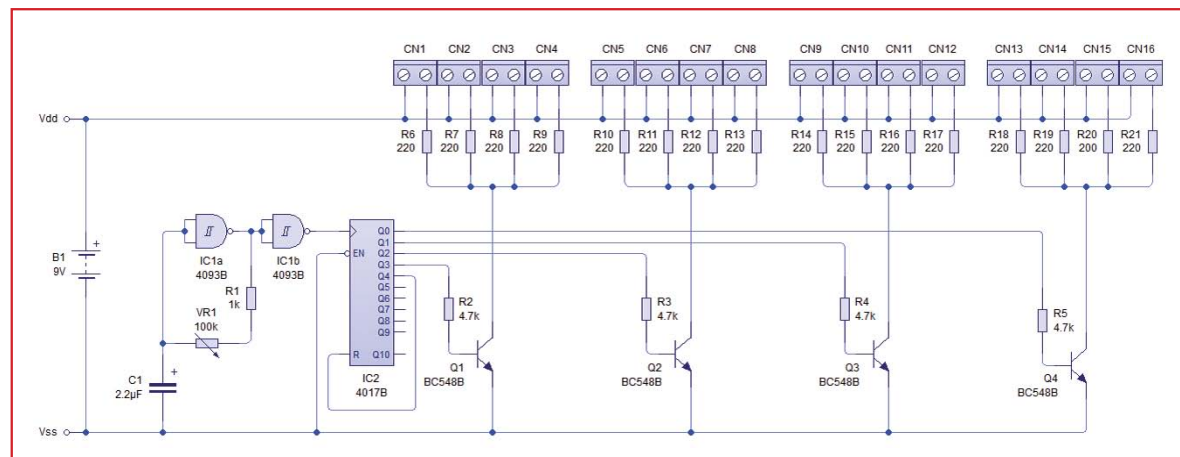

Fig.15. Modified version of Mini Christmas Lights sequencer
Now that we're happy with how the circuit simulates, we need to modify it a little to fit the requirements of our real output circuit before moving on to the PCB design stage. Fig.15 shows our modified version. We've removed the four individual LEDs and instead
- 16 Coloured LEDs (not shown in Fig.15)